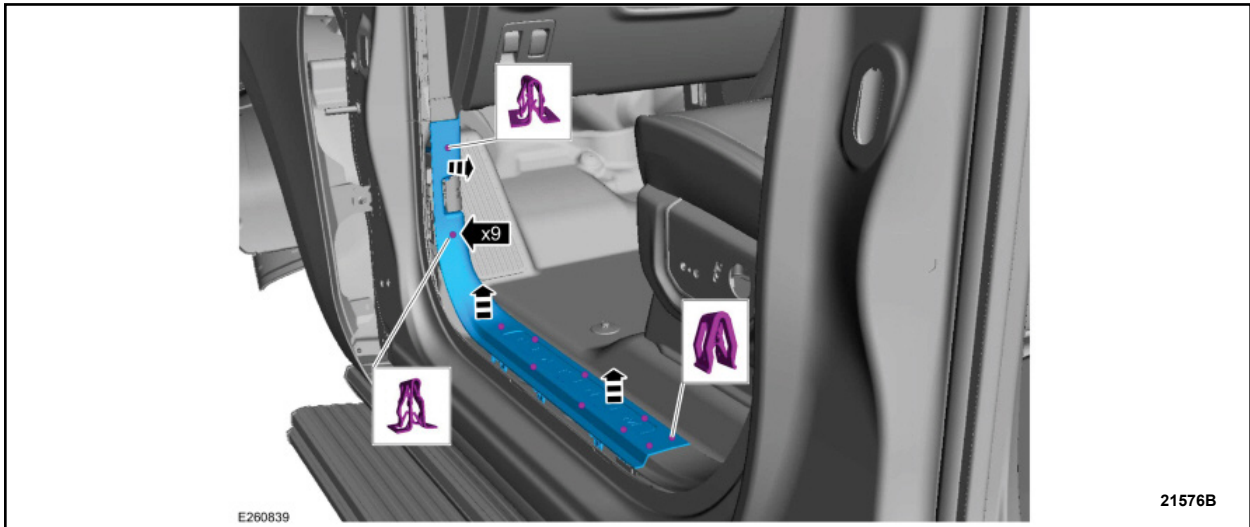

FIGURE 10
2. Release the clips and remove the front door scuff plate trim panel. See Figure 10.